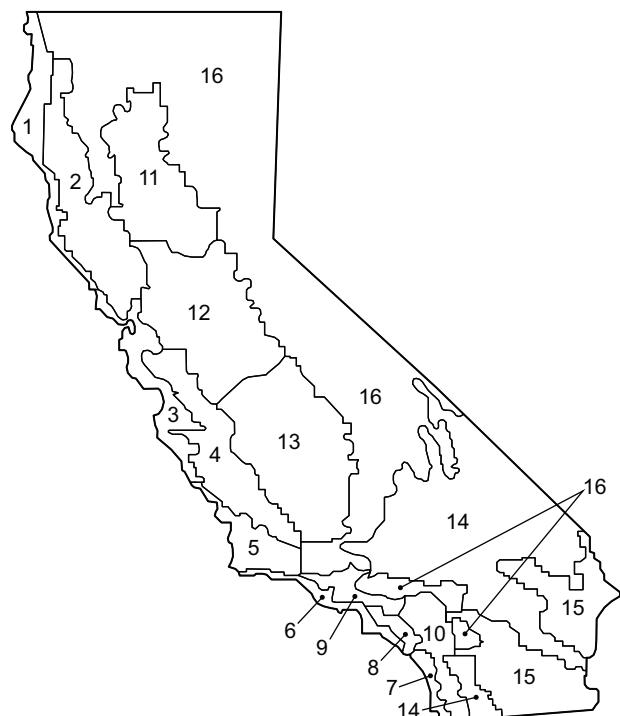

Fig. 97 — California Title 24 Zones
- b. See Fig. 97 for map of California Title 24 zones.